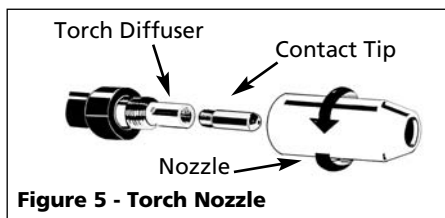

Figure 5 - Torch Nozzle
- b. Wire matches contact tip in end of torch (See Fig. 5).
7. Unscrew nozzle and contact tip from end of welding torch (See Figure 5). Plug welder into a proper power supply receptacle.
9. Carefully slip contact tip over wire, screw tip into torch end and reinstall nozzle (See Figure 5). Cut wire off approximately 1/4 inch from nozzle end.